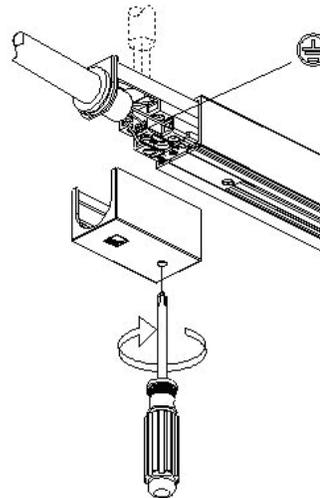

FIG 4B: LIVE END CONNECTOR FEED OPTIONS
3. Bring feed through either the knock-out on the bottom of the connector or on the side of the connector (Fig 4b).